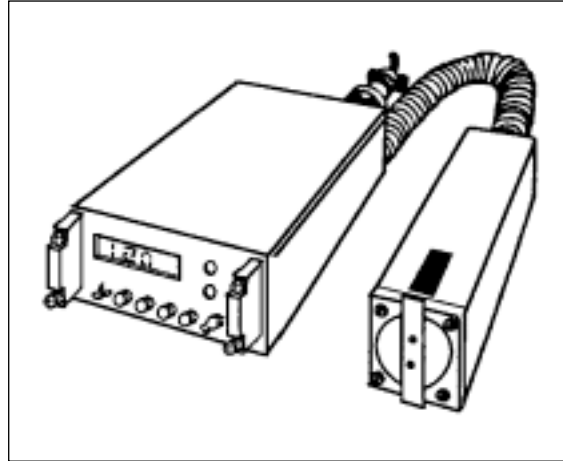

Fig 2-3. AN/VDR-2.
- (3) AN/VDR-2. The AN/VDR-2 was designed to replace the IM-174 series, AN/PDR-27, and IM-143/PD. You can use it to measure low and high intensities of radiation for area surveys, monitoring of personnel and equipment, and reporting total doses to team personnel (fig 2-3).